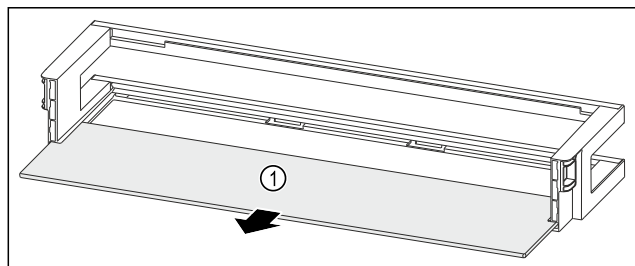

Fig. 221 Door rack with shelf
- ▶ Remove the shelf Fig. 221 (1).